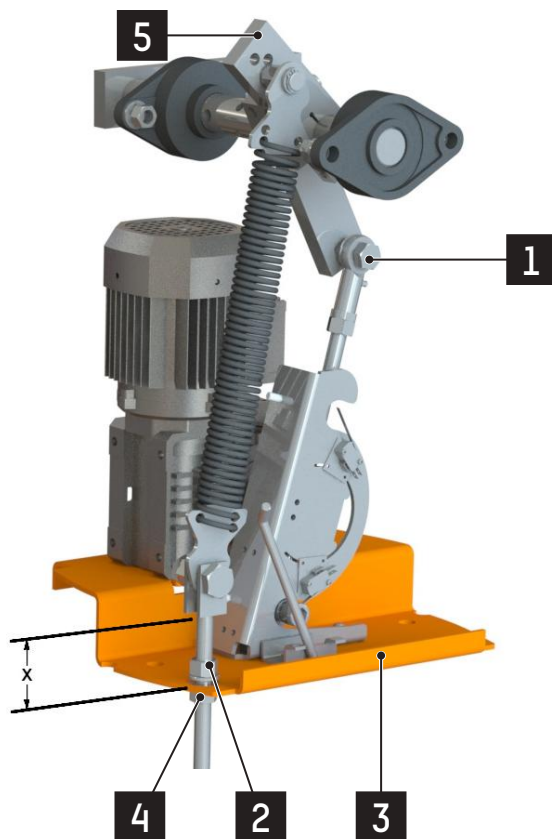

Fig. 26 - Balancing spring(s) settings
(2) **X** = Distance of fixing plate / support (mm): ⇒ Fig. 26, page 24